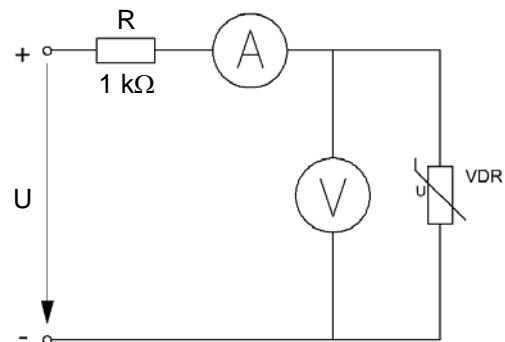

Fig. 3.5.2.1 : Characteristic recording  $I = f(U)$  and  $R = f(U)$
- Assemble the exercise circuit on the Board (Fig. 3.5.2.1.)